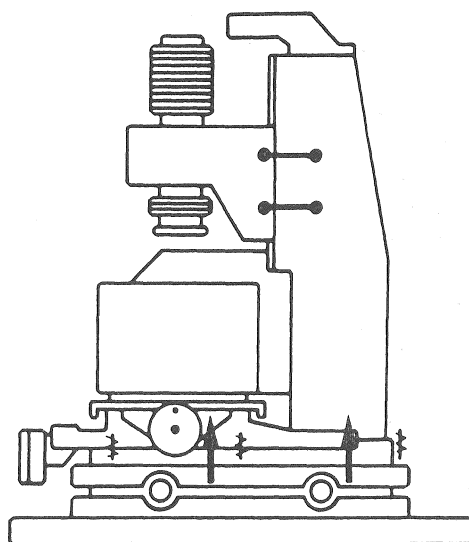

Fig 6
- 1 generator (800),
- 1 tank for the dielectric fluid (500)
- the generator (800) (refer to paragraph on "TRANSPORTATION"),
- the tank (500) (refer to paragraph on "TRANSPORTATION"),
7. Remove the two wood beams that clamp down the metal bars used to secure the machine (fig. 6).